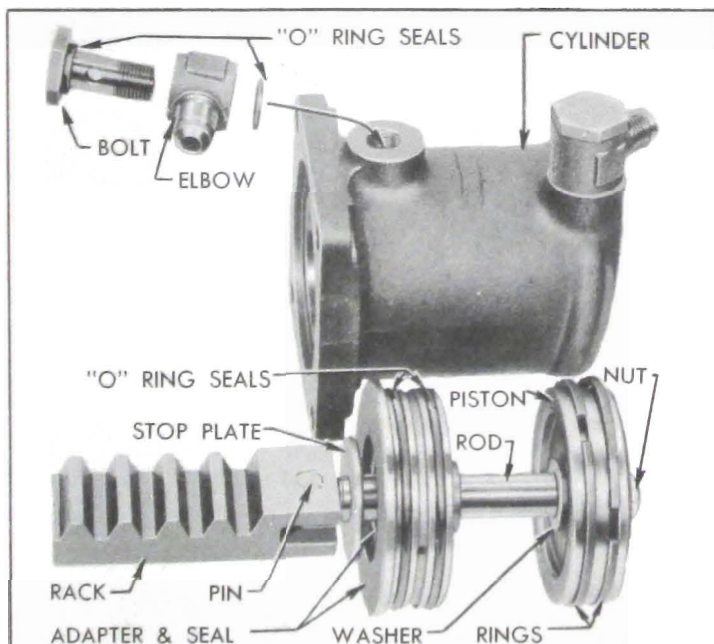

Figure 7-5—Power Cylinder and Rack Parts
5. Push rack up to the cylinder adapter and then pull it sharply away to hammer the piston against the adapter. It may be necessary to repeat this several times to break the grip of rubber seals between adapter and cylinder so that the rack and piston can be removed. See figure 7-5.